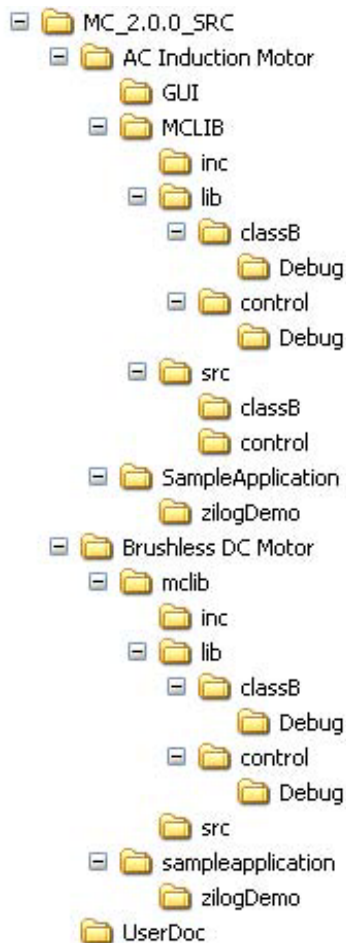

Figure 2. MC Library Directory Structure
- 5) Click **Finish** to complete the installation. On successful installation, MC Library (see Figure 2) is installed into the following default filepath:
Figure 2 illustrates the hierarchy of the MC Library v2.0.0 directory structure.